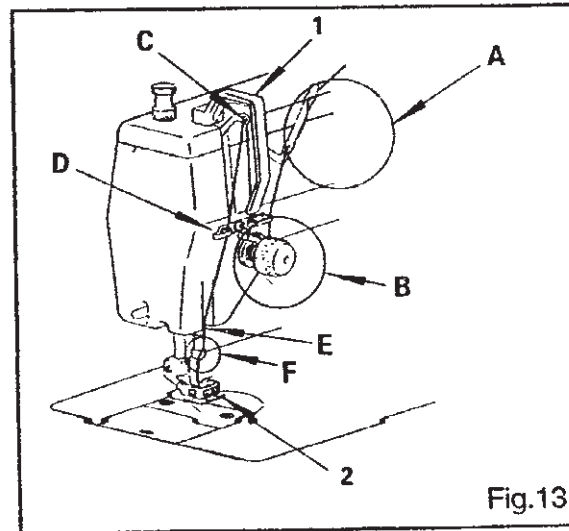
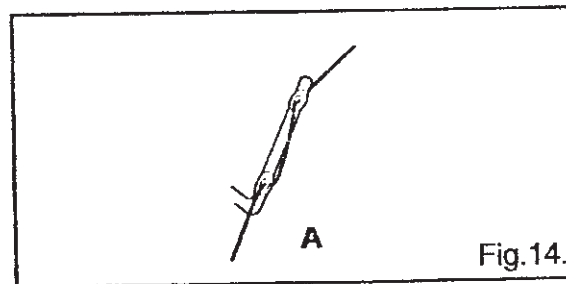
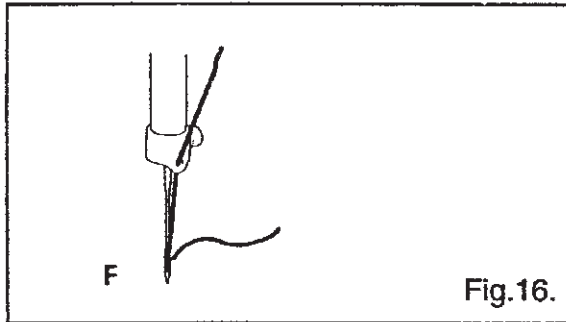

Fig.13.
Fig.14.
Fig.16.
12. THREAD SURFACE STITC - HES(Fig.13,14,15,16)
1. Raise the needle bar to the highest position, then pull the thread out and through A(Fig.13), B(Fig.14), C,D,E and F.(Fig.16)
2. As fig.16, thread from front to back.